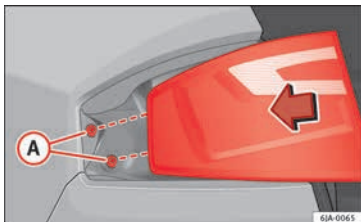

Fig. 102 Fit the tail light unit.
- Press the rear light unit backwards (driving direction) by fitting the fastenings into the rubber mountings » Fig. 102 A).